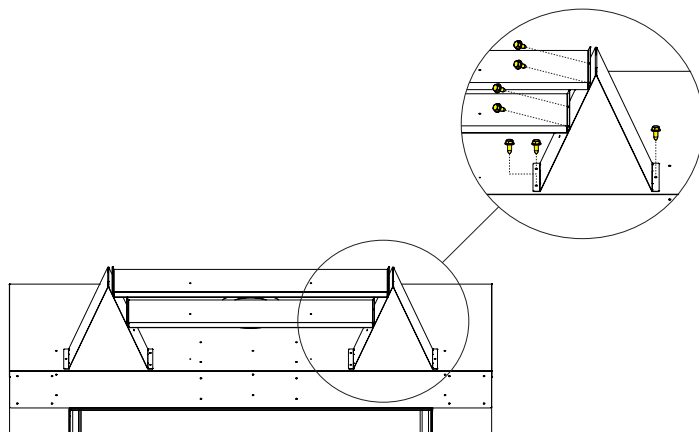

Figure 11
3. Use the two #10 x 1/2" screws removed in Step 1 and four #10 x 1/2" screws provided in the hardware package to secure the standoffs to the firebox top (3 each side. See Figure 11.
4. Secure the short and long supports to the standoffs using eight 10 x 1/2" screws (4 each support, 2 each side). See Figure 11.